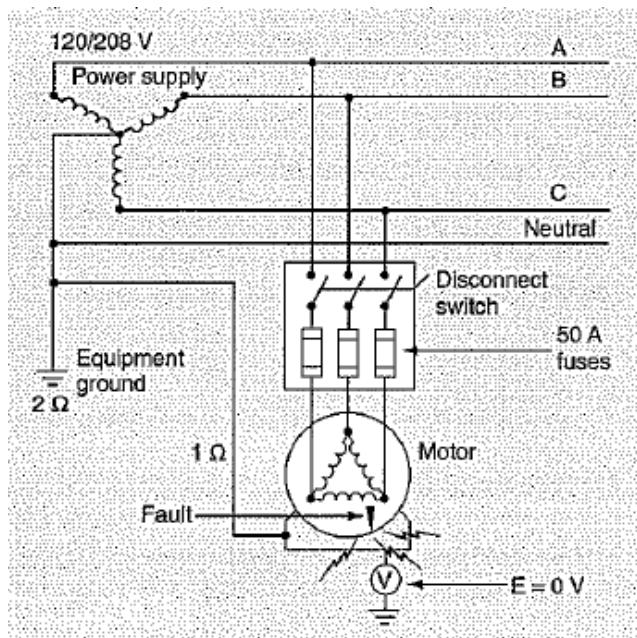

Figure 4.12: Motor Grounded to Transformer
- 4-39 The same circuit is shown in Figure 4.12, but with an equipment ground between the transformer and the motor. Suppose this line has a resistance of $1\ \Omega$. If the same fault occurs in the motor, it will cause a current of 120 A. This current blows the 50 A fuse and clears the fault from the system. In general, equipment-ground impedance should be low enough to pass a current of at least twice the rating of the overcurrent device at the phase-to-ground potential difference.